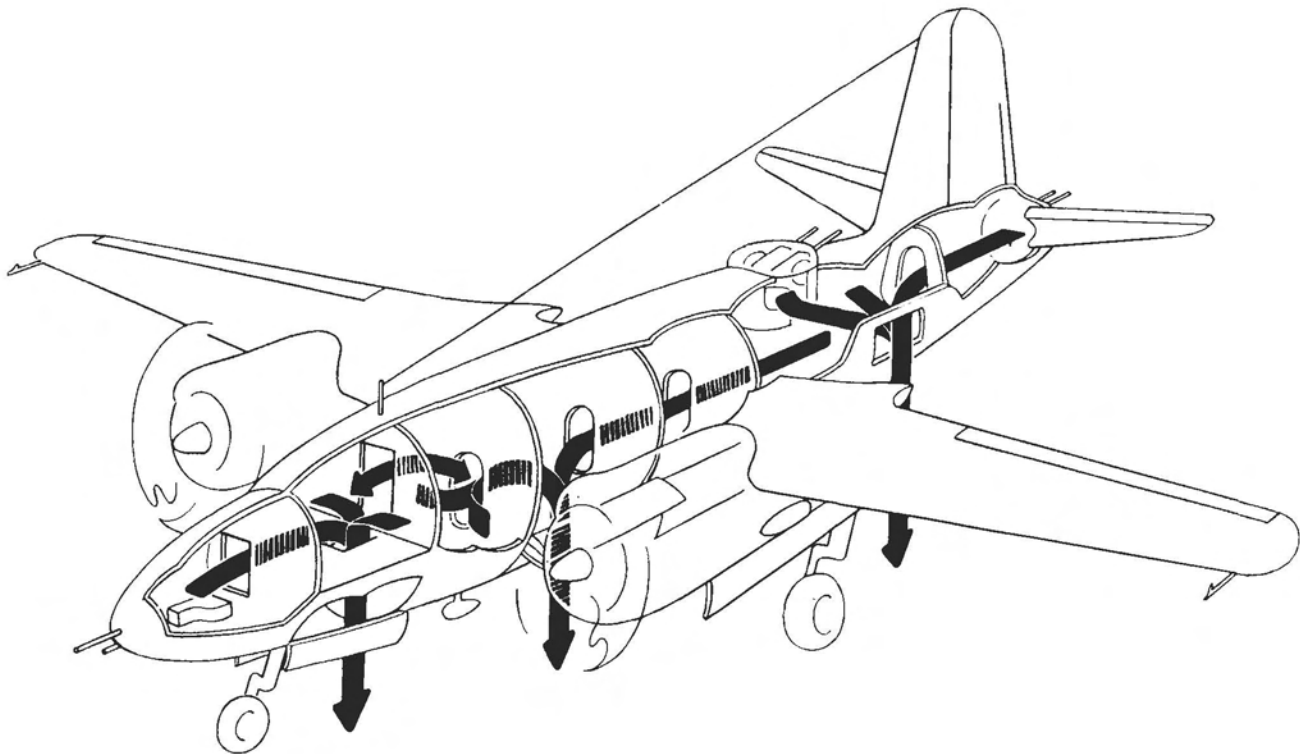

Figure 72 — Emergency Exits in Flight
c. EXIT FROM FORWARD COMPARTMENT. (See figure 72.) — The most direct exit from the pilot's or the bombardier's compartment is through the nose wheel well entrance hatch after the nose gear has been extended. Exit from the radio operator's and navigator's compartment is gained through the forward bomb bay doors which are opened from the bombardier's compartment with the bomb bay door selector handle or from the pilot's compartment with the emergency bomb release handle. The nose wheel
d. EXIT FROM AFT COMPARTMENT. (See figure 72.)— Either one of the two waist gun hatches or the aft bomb bay doors will furnish a safe